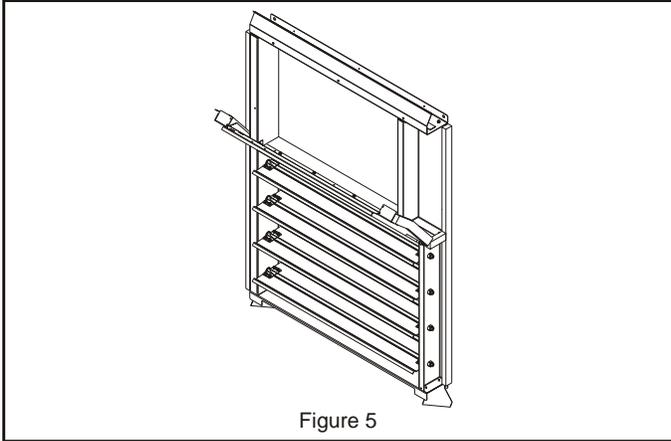

Figure 5
6. Install balancing damper in return air section. Loosen top of RTU by removing screws around return end of RTU. Remove screws from bottom of corner panel and pull out until the damper will slide in over duct opening. Once damper is installed replace all panels and screw in place. Put balancing damper in place with the damper blade at the bottom. **See Figure 5.** Loosen nut on linkage to set blades to 50% open and retighten nut.